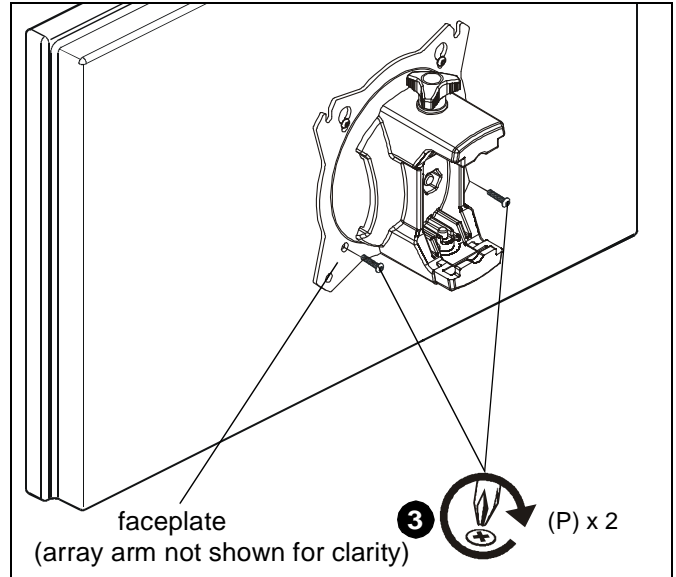

Figure 15
- Using Phillips screwdriver, install two M4x12 mm Phillips pan machine screws (P) through the *lower* mounting holes on faceplate into the display. (See Figure 15)